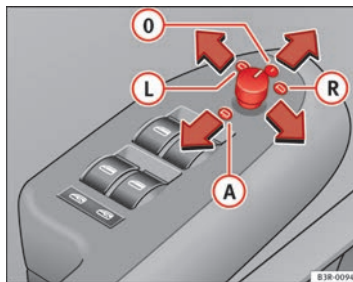

Fig. 104 Detailed view of the armrest: Adjuster knob
- Turn the adjuster knob to position ⇒ fig. 104 **(L)** (left exterior mirror) or position **(R)** (right exterior mirror).
When reverse gear is engaged, the mirror surface tilts slightly downwards, provided the mirror control is switched to the exterior mirror on the passenger side (knob in position **(R)** ⇒ fig. 104). This provides a better view of the kerb when parking.